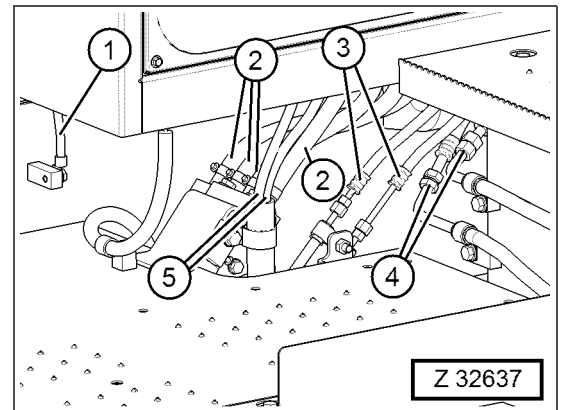

Fig. 3-305
7. Disconnect the drain hoses (Fig. 3-305, Pos. 5).
8. Disconnect the hoses (Fig. 3-305, Pos. 2) of the cab heating system.
9. Disconnect the conditioning hoses (Fig. 3-305, Pos. 3).
10. Disconnect the hydraulic hoses (Fig. 3-305, Pos. 4).
11. Disconnect the ground strap (Fig. 3-305, Pos. 1) of the cab base.